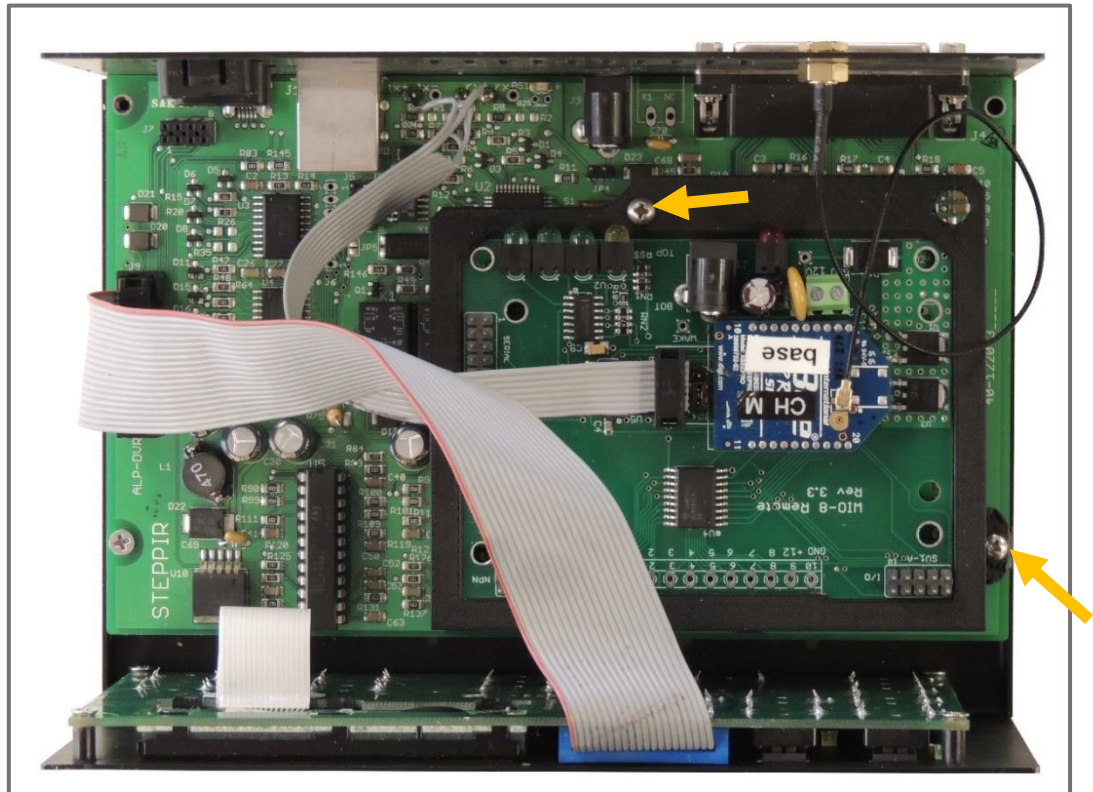

Fig. 9 Install the indicated screws.
Step 12: Screw the mounting bracket to the driver board using the included pan head screws as shown in figure 9. One screw will fix the mounting bracket and driver board to the controller chassis, and the other will fix the mounting bracket to the standoffs installed in step 9.